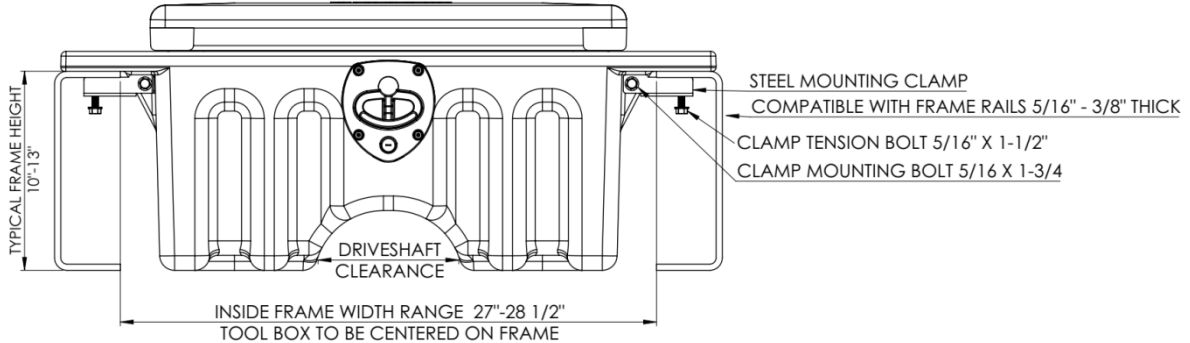

Figure 1. Inframe Truck Box Installation Drawing
- Review Figure 1 and specifications below to verify fit of the box to the truck.
- Remove the clamps, nuts, bolts, Primer 94 and VHB tape strips shown in Figure 1 from the mounting kit bag.
- Mark locations for tape strips at the (4) outer corners of the poly flange.